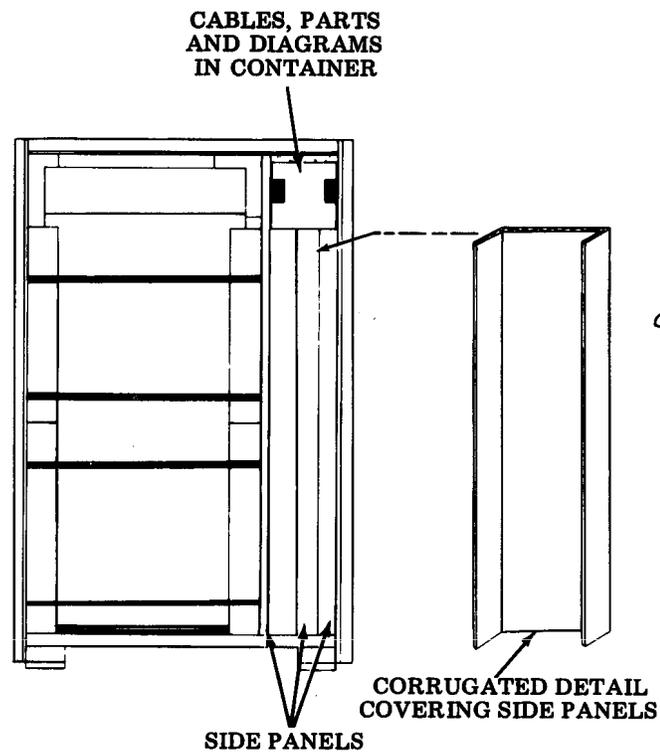

Fig. 2
(3) 2550 Cluster Controller Unpacking
- (b) Uncrate cabinet in upright position (see Fig. 2).